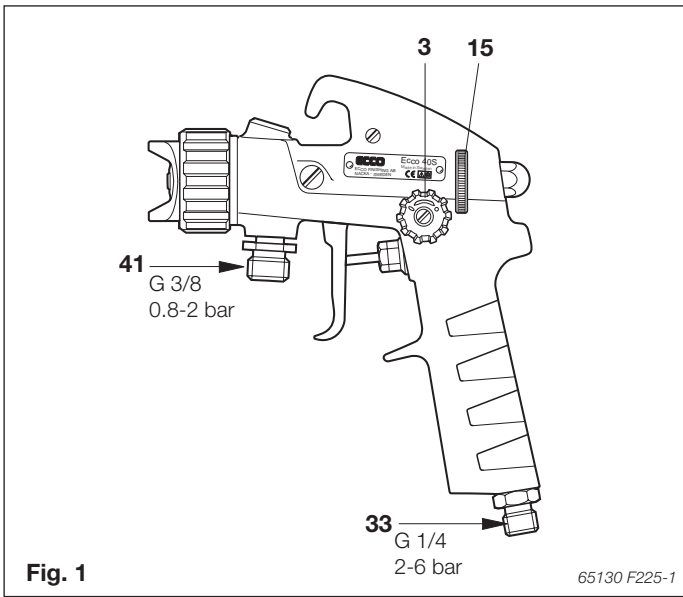

Fig. 1
- Install and operate the spray gun according to Fig. 1.
Connections and controls (see Fig. 1)